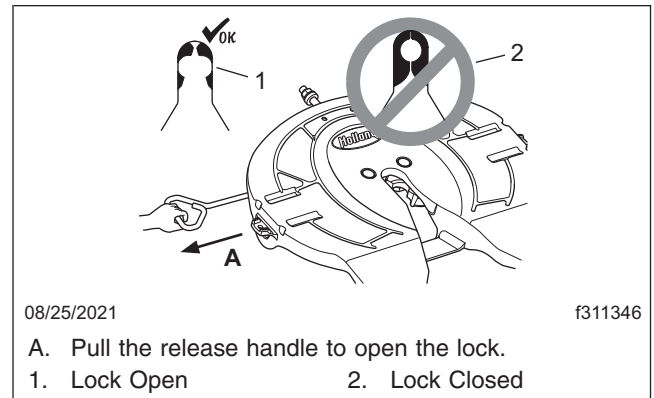

Fig. 17.10, FW35 Holland Locks Open and Closed
- 3.1 To unlock a **Holland FW35/31** fifth wheel, pull out the release handle as shown in Fig. 17.10.